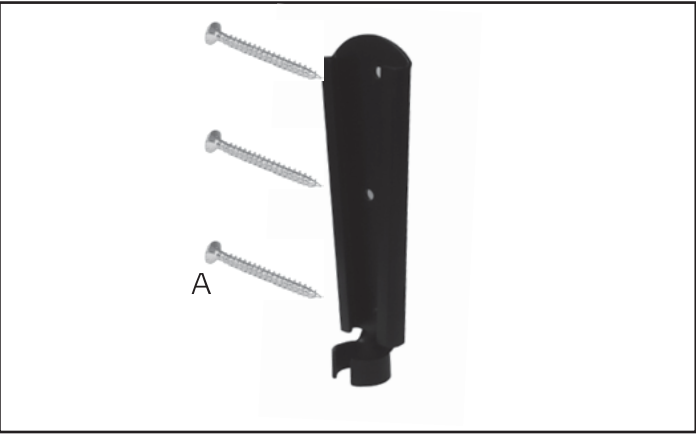

Figure 1 - Attach wall plate to wall
4. Attach wall plate using coach screws (A). Do not over tighten. See Figure 1.